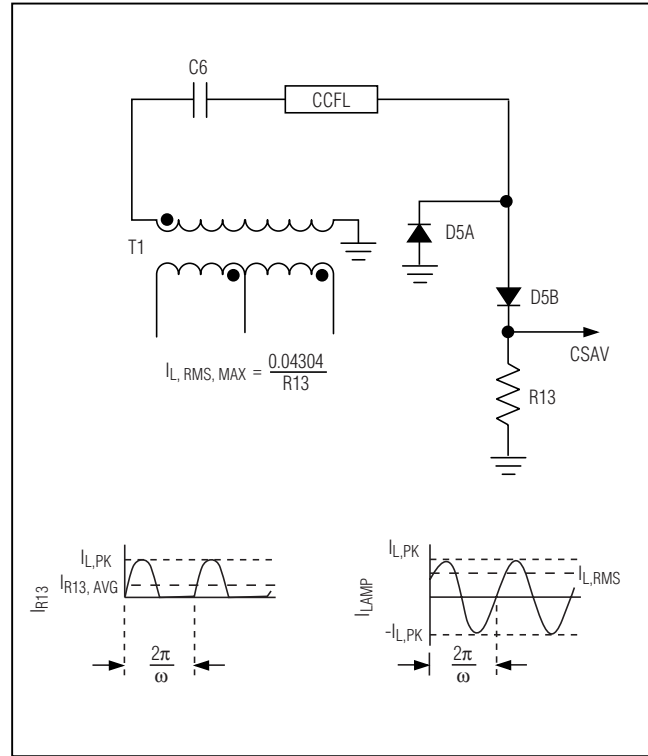
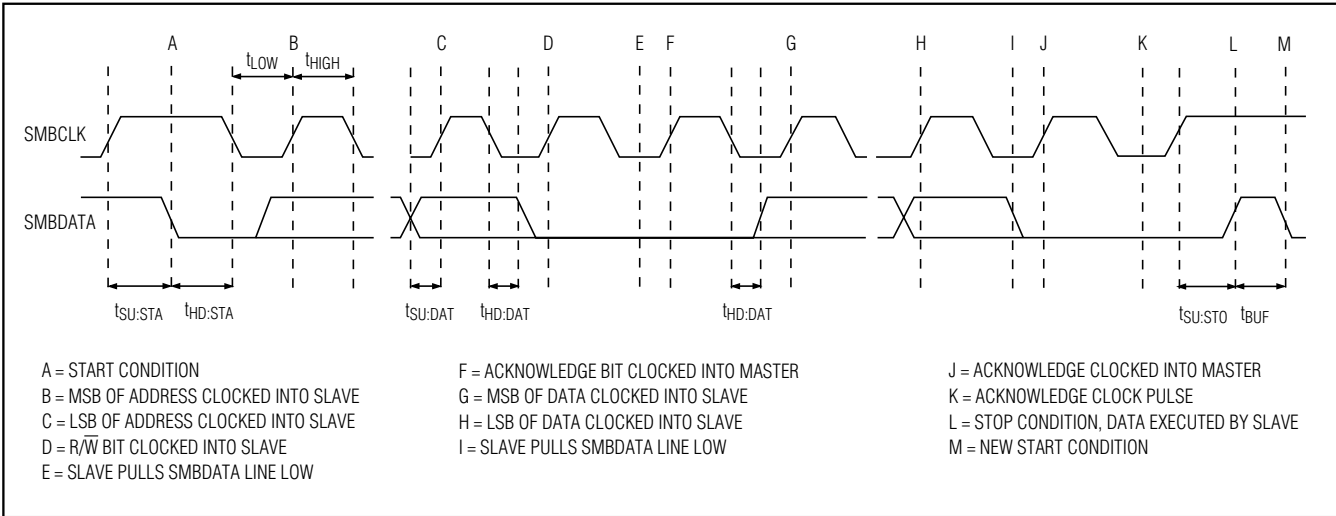

Figure 10. Current-Sense Waveforms
Figure 12. SMBus Write Timing
The MAX1739/MAX1839 regulate the average current through the CCFL. The current is sensed through the sense resistor (R13) at CSAV. The voltage at CSAV is the half-wave rectified representation of the current through the lamp (Figure 10). The MAX1739/MAX1839 regulate the average voltage at CSAV ( $I_{R13,AVG} \times R13$ ) and are controlled by either the analog interface or the SMBus interface. To set the maximum lamp current, determine R13 as follows:
Communication starts with the master signaling the beginning of a transmission with a START condition, which is a high-to-low transition on CRF/SDA while CTL/SCL is high. When the master has finished communicating with the slave, the master issues a STOP condition (P), which is a low-to-high transition on CRF/SDA while CTL/SCL is high (Figures 10, 11). The bus is then free for another transmission. Figures 12 and 13 show the timing diagram for signals on the 2-wire interface. The address byte, command byte, and data byte are transmitted between the START and STOP conditions. The CRF/SDA state is allowed to change only while CTL/SCL is low, except for the